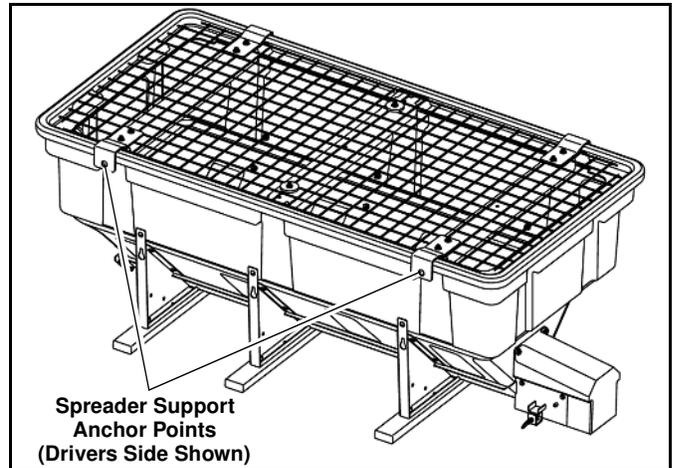

Figure 1-14
5. Using suitable tie-down straps or chain, secure the spreader to the vehicles factory installed anchor points using two tie-down brackets on each side of the spreader hopper. (See Figure 1-14)